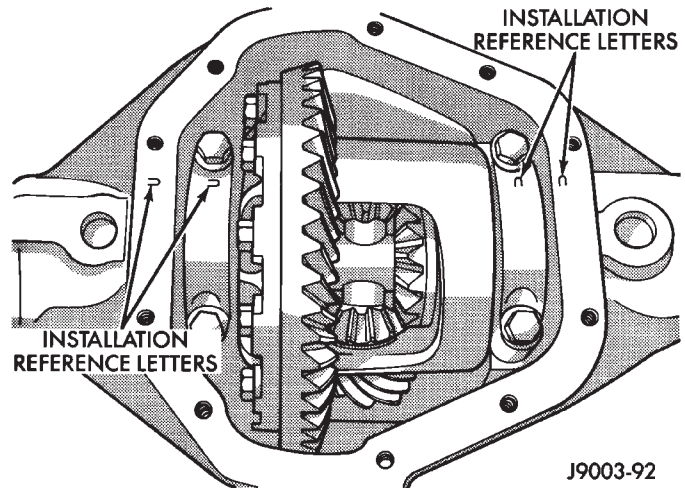

Fig. 15 Bearing Cap Identification
(1) Note the installation reference letters stamped on the bearing caps and housing machined sealing surface (Fig. 15).